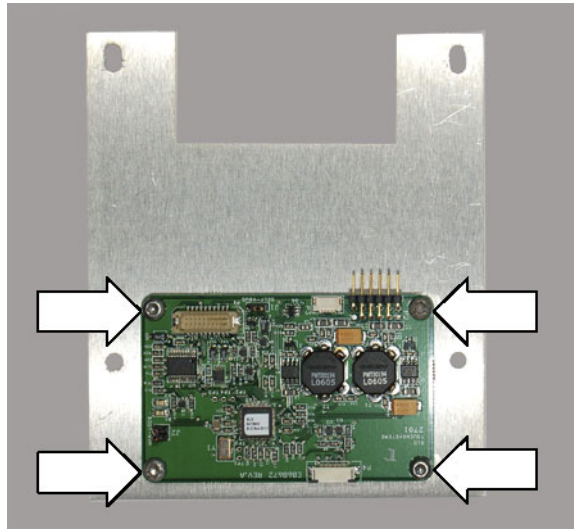

Figure 10: Installing the Touch Panel Controller board to the bracket
- b.** Secure the Touch Panel Controller board to the bracket (Tektronix part number 407-5001-xx), using the four screws (Tektronix part number 211-0503-xx). See Figure 10.